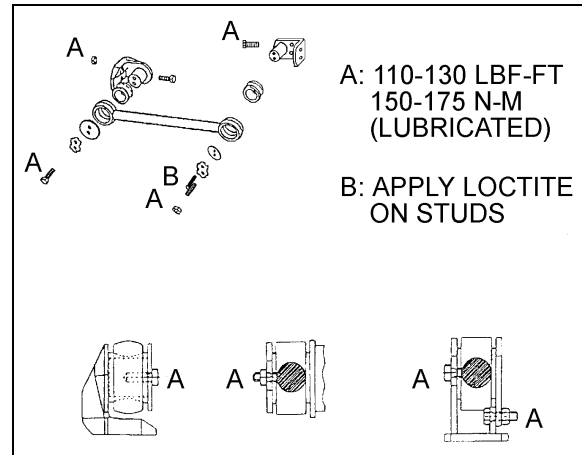

FIGURE 21: RADIUS ROD INSTALLATION
1. Lightly spray the radius rod support with water. Place the radius rod end over the radius rod support (Fig. 21).